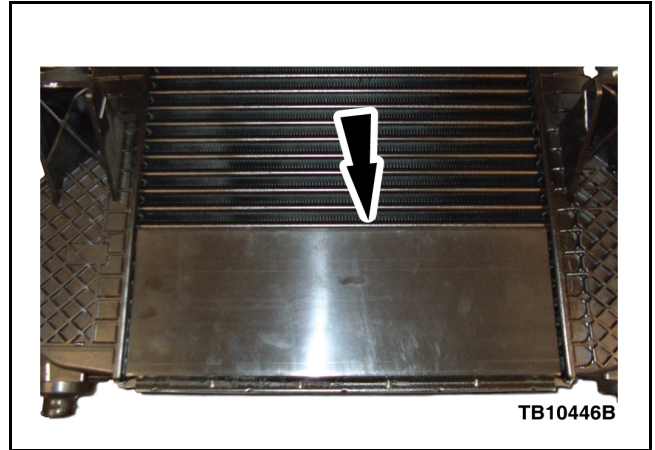

Figure 5 - Article 13-8-1
- b. Clean the charge air cooler lower forward facing bottom seven (7) tubes and eight (8) rows of fins by wiping surface down with isopropyl alcohol.
- d. Install the deflector onto the charge air cooler core surface insuring the forward facing bottom seven (7) tubes and eight (8) rows of fins are covered and pressing firmly into place by hand maintain even pressure for 30 seconds. (Figure 5)